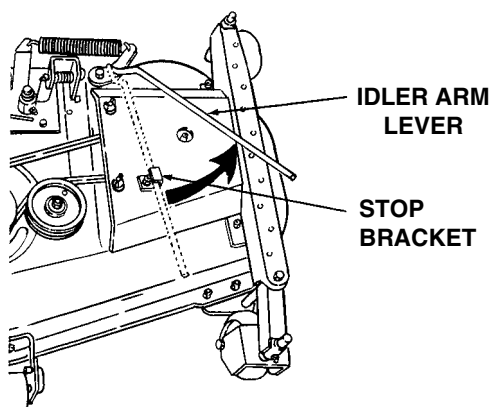

Figure 47
7. Lower the mower deck by moving the implement lift handle to its lowest setting. Disengage the deck idler arm lever from its stop bracket and release the spring tension by rotating the lever out and rearward (Refer to Figure 47).